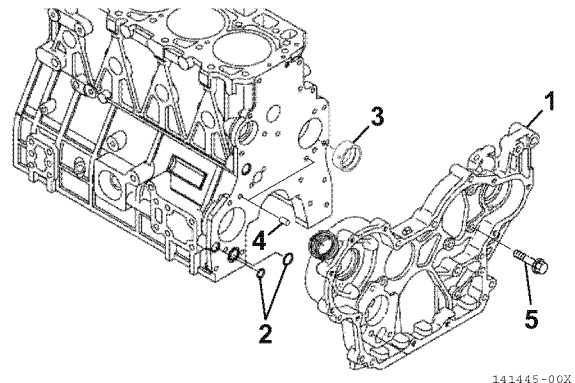

Figure 6-58
- Remove the bolts (5, **Figure 6-58**).
- Remove the gear case (1, **Figure 6-58**) from the cylinder block. Thoroughly clean all old sealant from the mating surfaces.
- Inspect and measure the camshaft bushing. See *Camshaft* on page 6-7 for the service limit. If damaged or worn beyond service limits, remove the camshaft bushing (3, **Figure 6-58**).
- 4TNV98C, 4TNV98CT:** Remove two O-rings (P20 and P14) (2, **Figure 6-58**) and two pins (4, **Figure 6-58**).